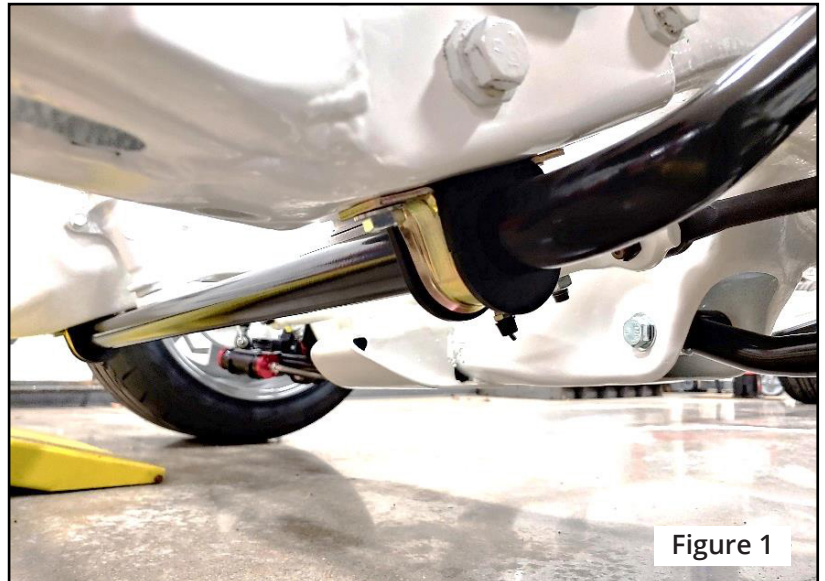

Figure 1
1. Mount the sway bar (1) to the original sway bar frame mounts with the locator tabs on the provided bushings (2), and the 3/8" sway bar mount hardware (not shown).
2. Center the sway to the frame and torque the bolts to 30 lb-ft. **(Figure 1)**